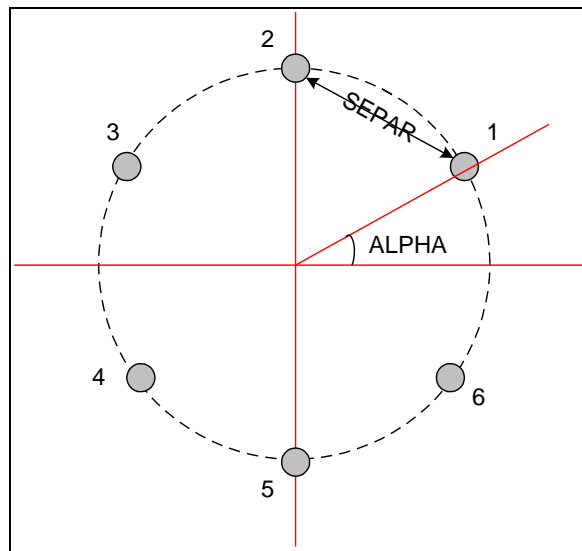

Figure 1–1 Sample sketch of a bundle with 6 conductors
- **Bundled conductor:** Specify a symmetrical bundle using (see Figure 1–1):
Figure 1–2 shows the conductor data taken from the drawings in Figure 1–3 and Figure 1–4. This example evaluates an FD-line model for a 3-phase transmission line system having the following properties: